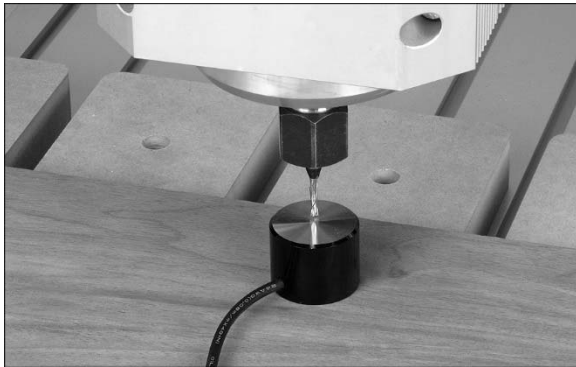

Figure 10-4
4. Set Z-axis origin with provided tool touch-off puck (Figure 10-4), as follows: